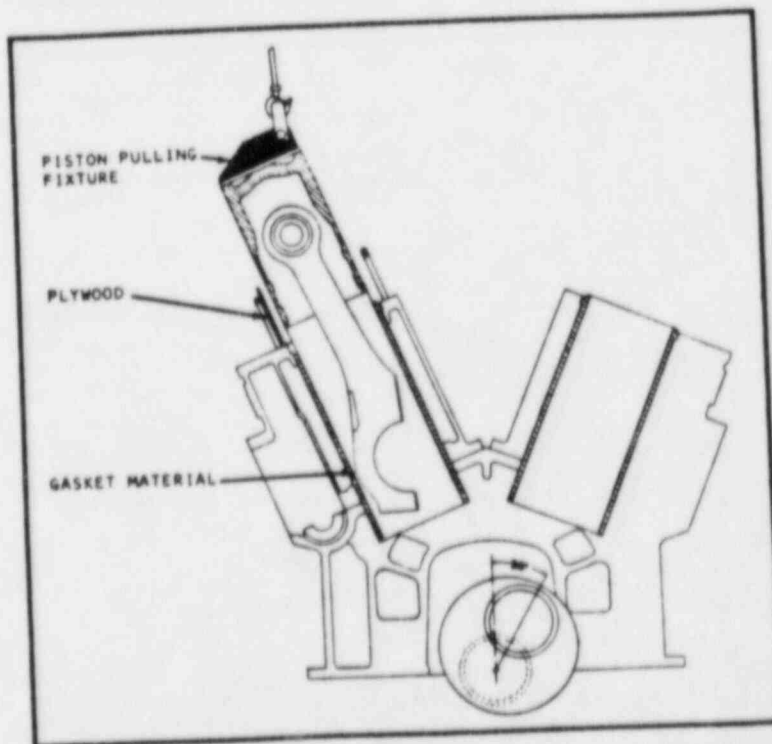

Figure 6-C-6. Lifting Master Rod and Piston From Cylinder Liner
- Pull piston and rod in the same manner as piston and link rod were pulled (see figure 6-C-6).
- Install tools and handling equipment as shown in figure 6-C-2 except that a piston holder spacer ring need not be installed on the master rod side. Attach a piston pulling fixture to the master rod piston and attach hook of overhead crane.